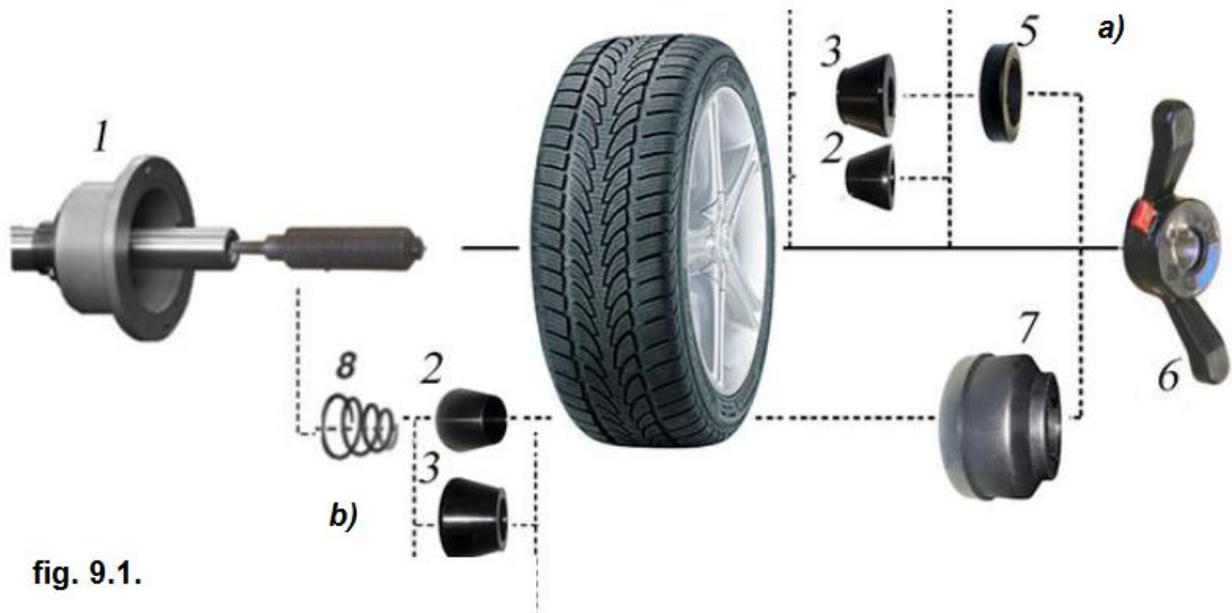

fig. 9.1.
9.2. The wheel is being fixed on the shaft by its central bore with the use of the cones and the quick release nut with threaded sliding blocks. Depending on the configuration of the disc, the cone can be placed on the outer side of the disc (option "a"), or on the inner side (option "b") (fig. 9.1)